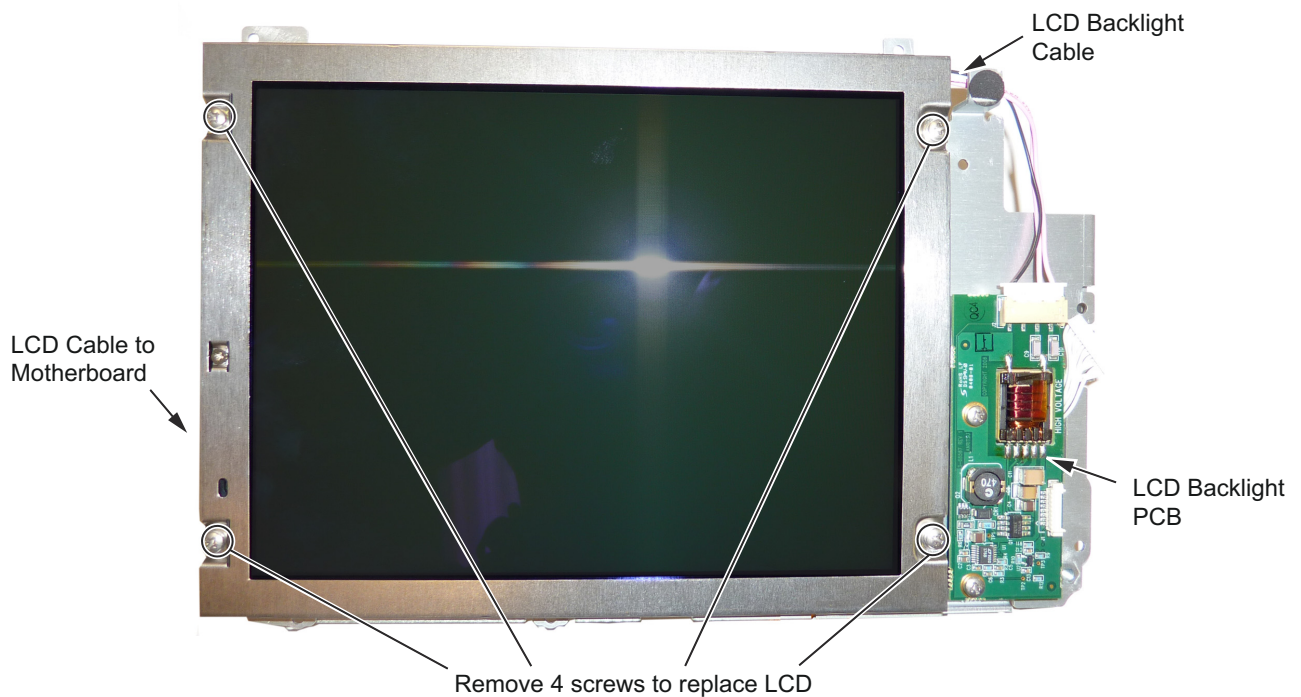

Figure 6-12. Replacing the LCD
5. Use a Phillips screw driver to remove the four screws securing the LCD to the housing (Figure 6-12).